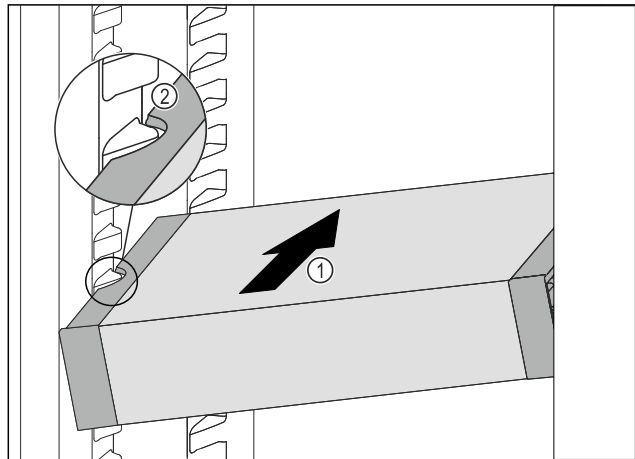

Fig. 133
- ▶ Insert the VarioSafe into the fridge section at an angle Fig. 133 (1) until the recesses in the side Fig. 133 (2) of the VarioSafe are at the level of the support rib in the fridge section.